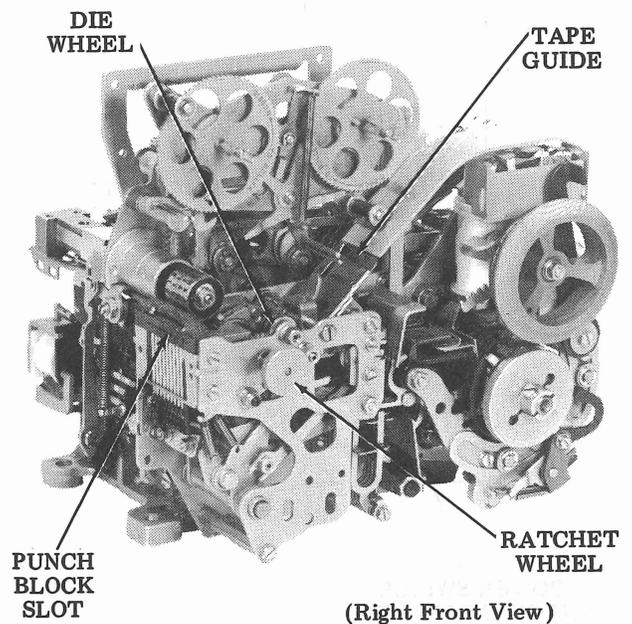

Figure 22 - 37 Typing Reperforator
4.30 To route the paper tape refer to Figure 22 and perform the following routing procedure: